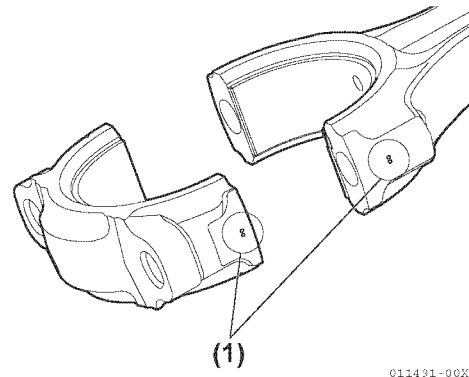

Figure 5-100
- When installing the connecting rod to the crankshaft, make sure to match the alignment marks on the rod cap (Figure 5-100).